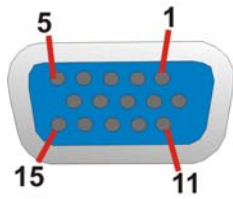

Figure 3-29: VGA Connector
- CN Pinouts:** See **Figure 3-29** and **Table 3-33**